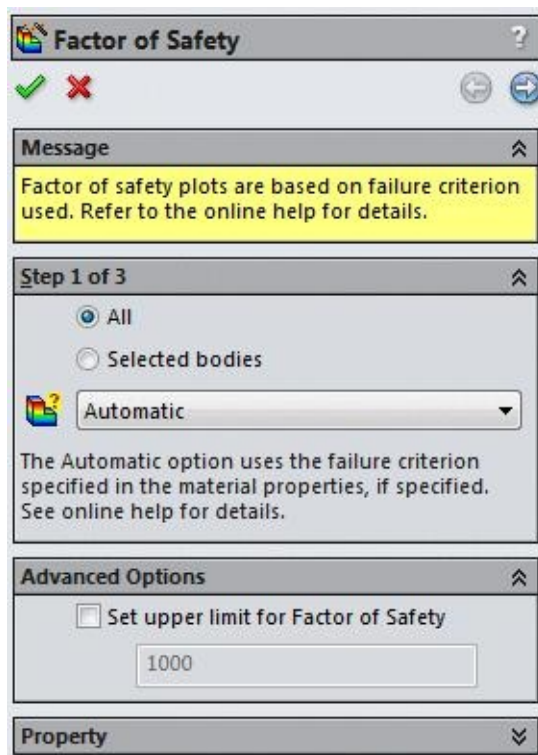

Figure-20. Factor of Safety PropertyManager
- Click on the **Define Factor Of Safety Plot** option to display the results related to **Factor Of Safety**. The **Factor of Safety PropertyManager** will be displayed as shown in Figure-20.